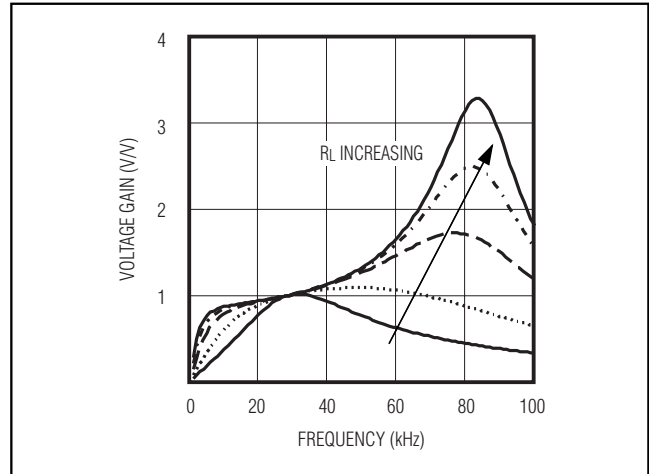

Figure 8. Frequency Response of the Resonant Tank
Figure 8 shows the frequency response of the resonant tank's voltage gain under different load conditions. The primary series capacitor is 1μF, the secondary parallel capacitor is 15pF, the transformer turns ratio is 1:78, and the secondary leakage inductance is 260mH. Notice that there are two peaks, f_S and f_P , in the frequency response. The first peak, f_S , is the series resonant peak determined by the secondary leakage inductance (L) and the series capacitor reflected to the secondary (C'S):